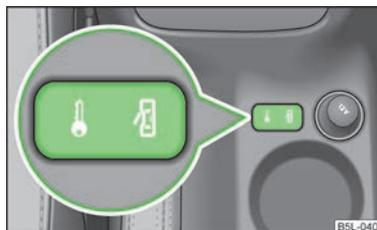

Fig. 12
If the vehicle was not locked from the outside, you can also unlock and lock it with the rocker switch » Fig. 12 without the ignition switched on.
- Press the button in the area **B** » Fig. 12. The symbol **B** in the button comes on.
- Press the button in the area **C** » Fig. 12. The symbol **C** in the button is no longer illuminated.